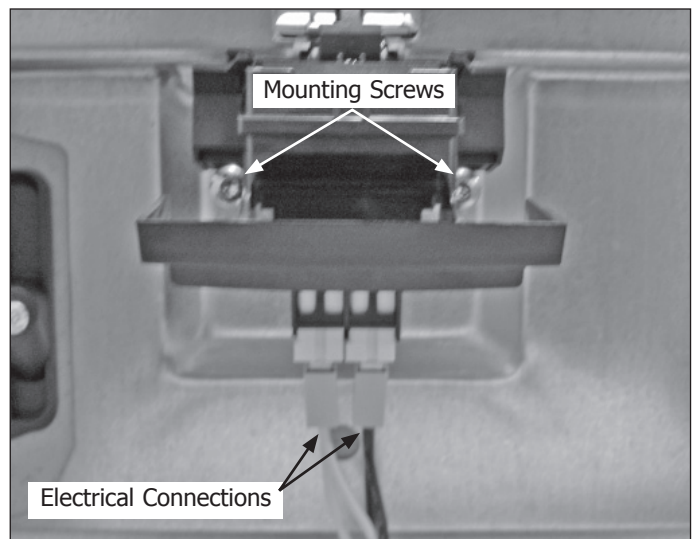

Figure 4-10.
4. Using a Torx T-25 bit, extract the two screws securing the door latch to the inner panel. (See Figure 4-10)